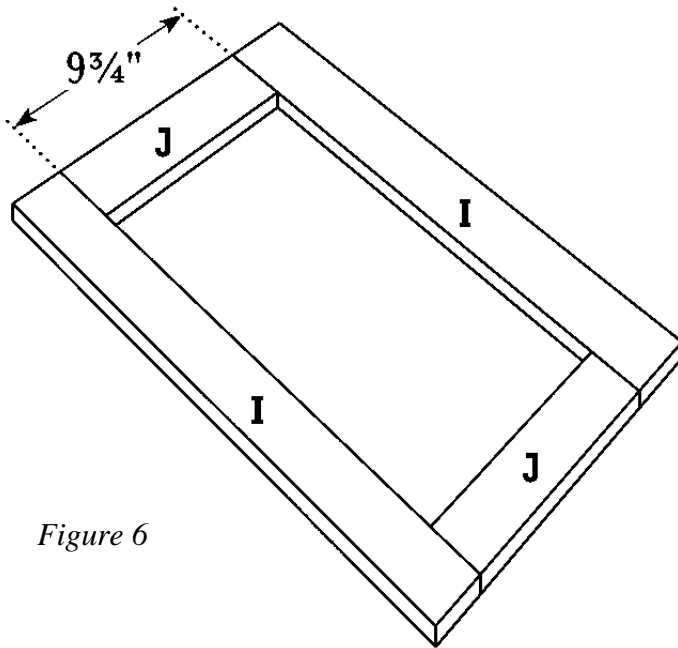

Figure 6
- Cut two Upper Panels (H) from 3/8" plywood, each measuring 19-3/4 x 11-3/8 inches.
- Cut four Upper Vertical Trims (I) from 1 x 3 pine, each measuring 21-3/4 inches.
- Cut four Upper Horizontal Trims (J) from 1 x 3 pine, each measuring 8-3/4 inches long
- Position two of the Upper Vertical Trims (I) face down on a level surface, parallel to each other and 8-3/4 inches apart. Position two of the Upper Horizontal Trims (J) between the Upper Vertical Door Trims (I), as shown in *Figure 6*. Apply glue on the meeting surfaces. Hold the trims in place temporarily using bar clamps.
- Cut two Lower Panels (K) from $\frac{3}{8}$ " plywood, each measuring $15\frac{1}{4}$ x $11\frac{3}{8}$.
- Cut four Lower Vertical Trims (L) for the door from 1 x 3 pine, each measuring $17\frac{1}{4}$ inches.
- Cut four Lower Horizontal Trims (M) for the door from 1 x 3 pine, each measuring $8\frac{3}{4}$ inches.
- Position two of the Lower Vertical Trims (L) face down on a level surface parallel to each other and $8\frac{3}{4}$ inches apart. Position two of the Lower Horizontal Trims (M) between the Lower Vertical Trims (I) $12\frac{1}{4}$ inches apart, as shown in *Figure 6*. Apply glue to the meeting surfaces, and use bar clamps to hold the horizontal and vertical door trims (L and M) in place temporarily.